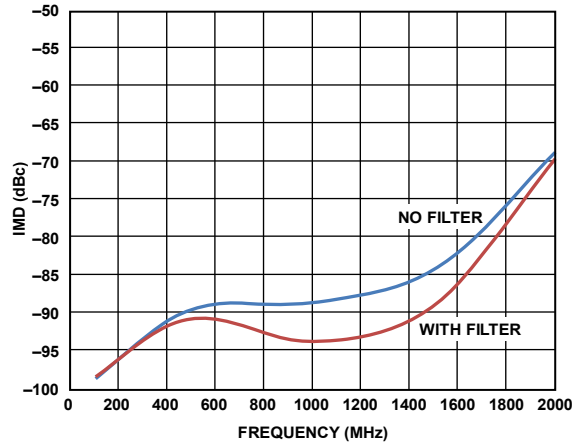
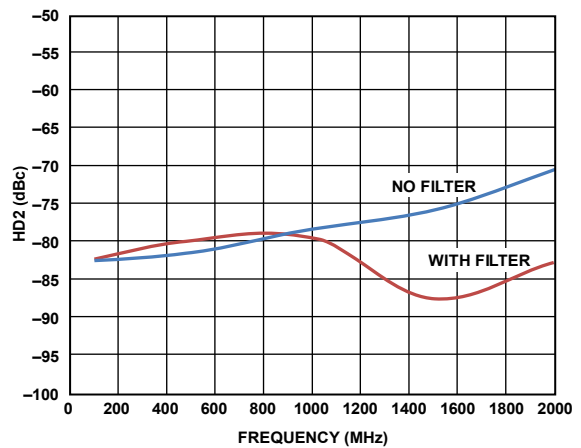

Figure 46. IMD vs. Frequency, with and Without LC Filter
Figure 47. HD2 vs. Frequency, with and Without LC Filter
The high frequency distortion performance of the ADA4961 can be enhanced by adding a low-pass filter to the output (see Figure 46 and Figure 47). A two-pole low-pass filter is used in the ADC Driving section to illustrate the distortion improvement capabilities and integrated noise reduction. Figure 49 shows a simplified diagram of a two-pole low-pass (LP) filter. The inductor capacitance (LC) values are 2 nH and 2 pF, respectively. This filter gives an overall -3 dB BW of 2 GHz when connected to the ADA4961. Ideally, the BW is 3.5 GHz without any parasitics. The parasitic, C, (about 1 pF) across the 2 nH inductor (not shown) reduces the BW to about 2.1 GHz.